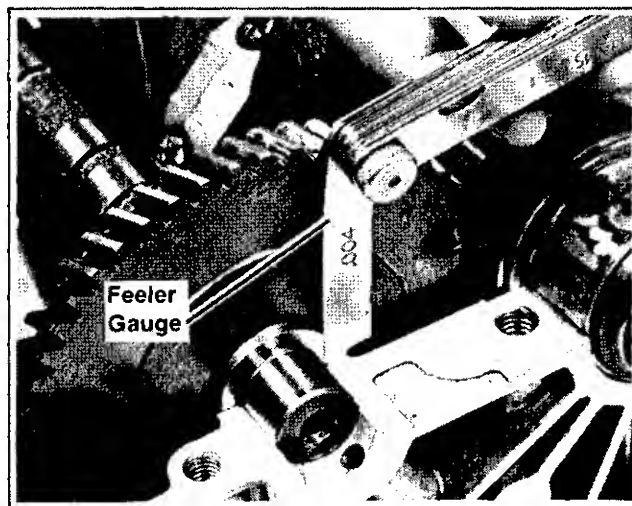

Figure 8-12. Checking Camshaft End Play
3. Check camshaft end play (see Section 1 - "Specifications" and "Tolerances") with feeler gauge (see Figure 8-12). If camshaft exceeds clearances, service shims are available to bring camshaft end play into specification.